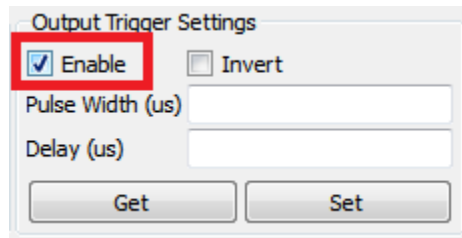

Figure 2-32. DLP LightCrafter GUI Output Trigger Enable Checkbox
1. Check the "Enable" checkbox in the Output Trigger Settings as shown in Figure 2-32.